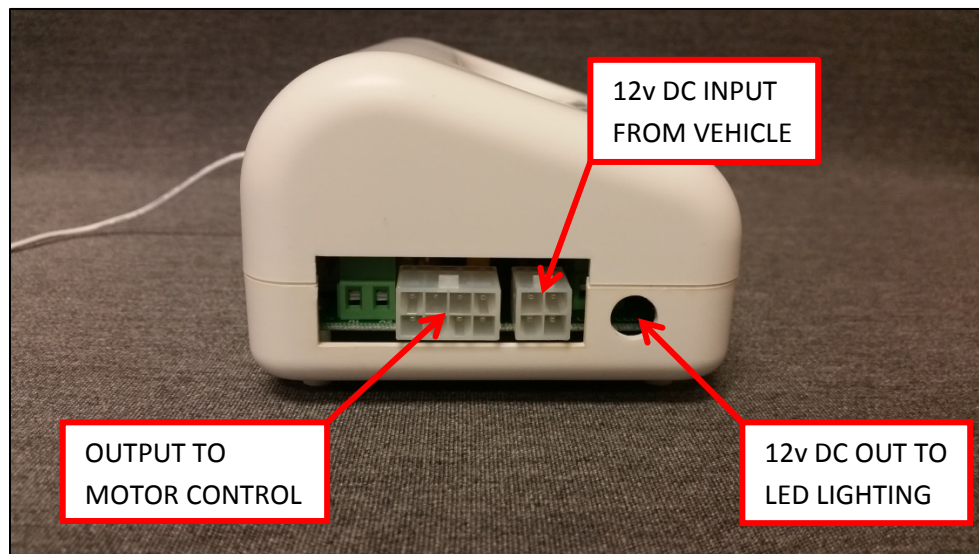

Fig.3
- 8 pin Connector for the two wires (Blue and Brown) for connecting the DC motor(see Fig.3 Below)
- 4 pin Connector for the two wires (Black [-] and Red [+]) for connecting to the 12v DC power source (see Fig.3 Below).